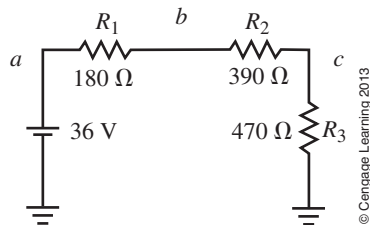

FIGURE 5–76
41. Refer to the circuit of Figure 5–63. Use PSpice to find the following:
42. Refer to the circuit of Figure 5–62. Use PSpice to find the following: